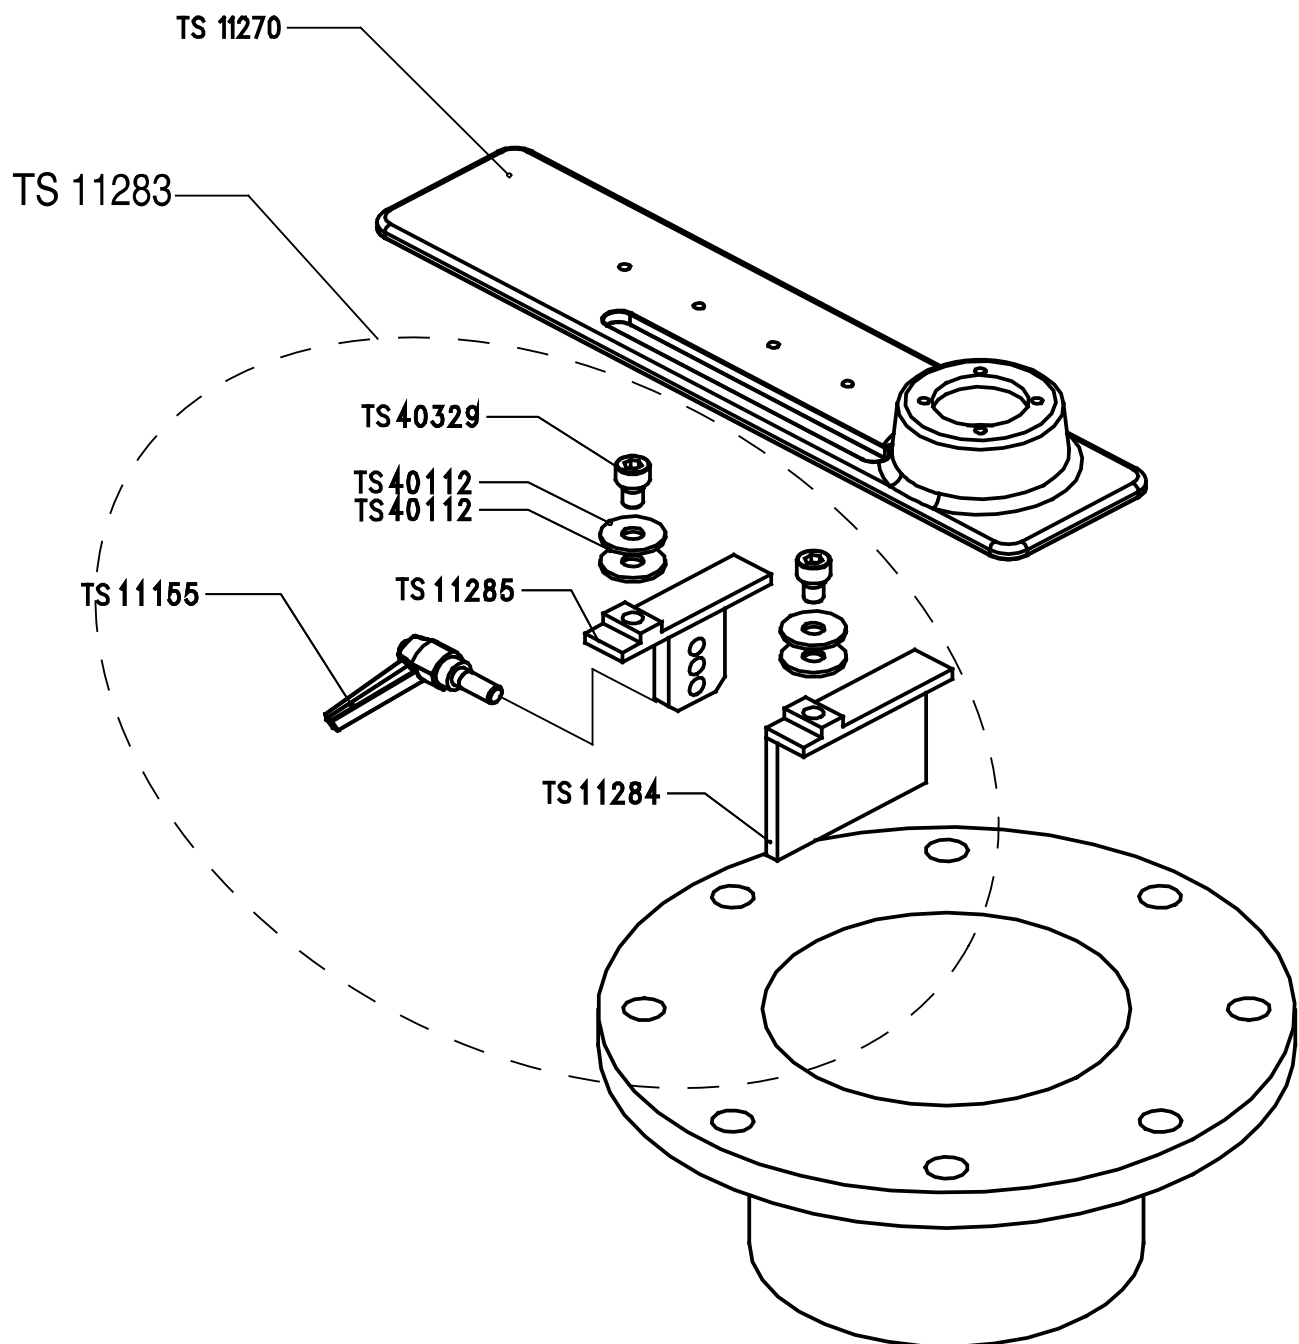

Figure 11-8: pipe clamp assembly
- Figure 11-8: pipe clamp assembly